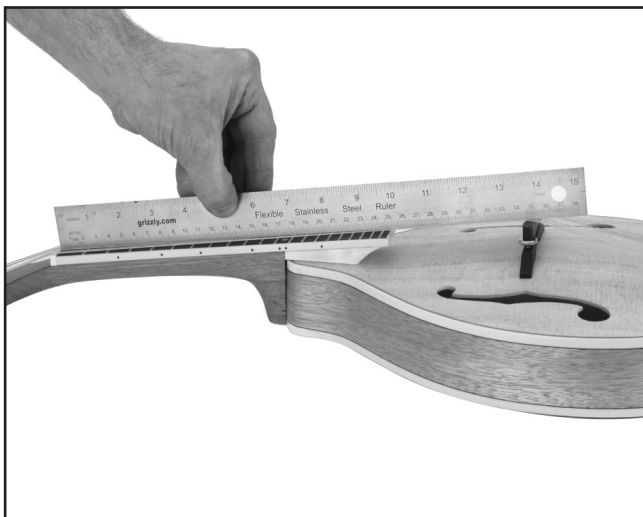

Figure 40. Example of bridge placement.
7. Make sure that the bridge is located 13.8" from the nut and 6.89" from the 12th fret. (See **Figure 40**).